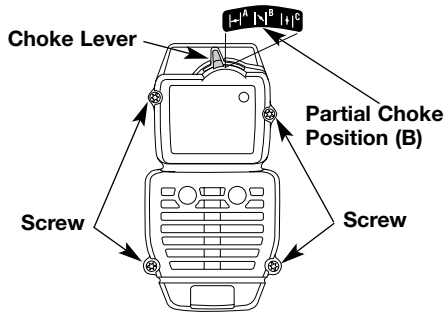

Fig. 30
1. Place the choke lever in the **PARTIAL** choke position (B).
NOTE: The choke lever must be in the **PARTIAL** choke position (B) (Fig. 30) to remove the Air filter/Muffler cover.
2. Remove the four (4) screws securing the air filter/muffler cover (Fig. 30). Use a flat blade or #20 Torx bit screwdriver. Pull the cover from the engine. Do not force.
NOTE: The choke lever must be in the **PARTIAL** choke position (B) (Fig. 30) to install the Air filter/Muffler cover.
2. Insert the four (4) screws into the holes in the Air filter/Muffler cover and tighten. Do not over tighten.
7. Reinstall the air filter/muffler cover, and screws (Fig. 30). See **Air filter/Muffler Cover Removal and Installation** section, Pg. 18.